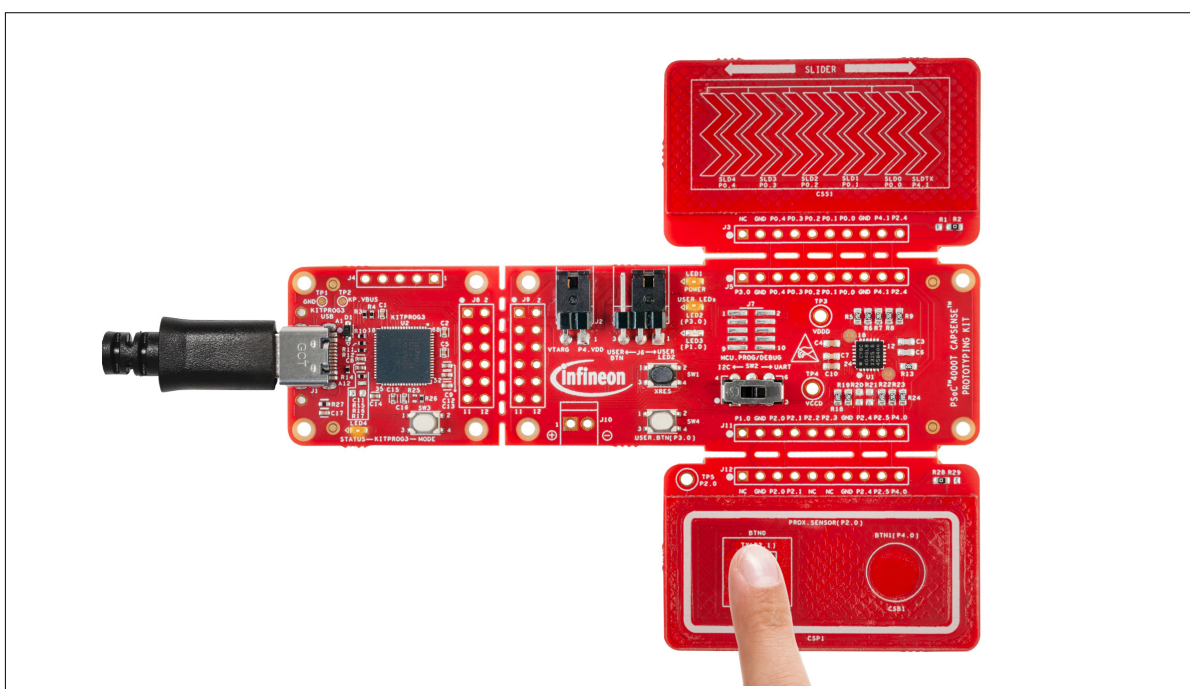

Figure 7 CAPSENSE™ button operation with LED indication
2. Touch the self-capacitance-based button(CSB1) or the mutual-capacitance-based button(CSB2) with the finger and observe the LED2 turns ON, as shown in Figure 7.